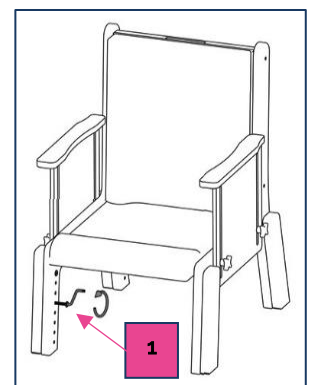

Fig. 4.2.2-1
2. Using the tool unscrew the 2 screws per leg. This will allow you to reposition the seat. See Fig. 4.2.2-1 Ref 1).